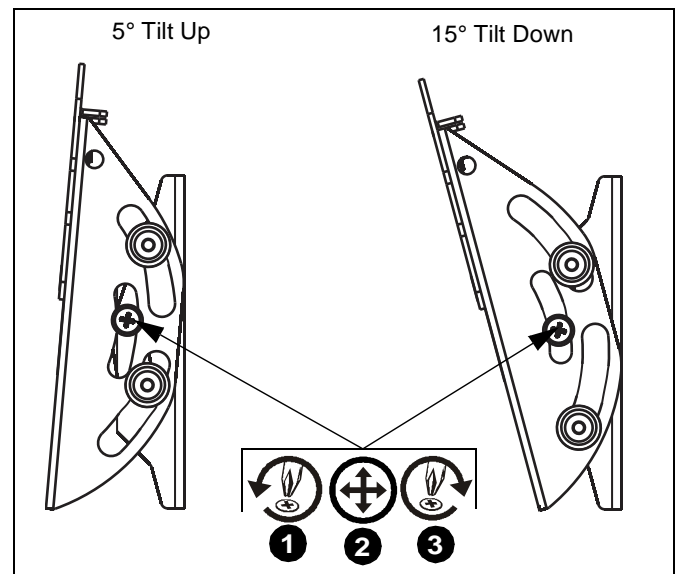

Figure 10
1. Loosen adjusting screws on each side of display (See Figure 10).